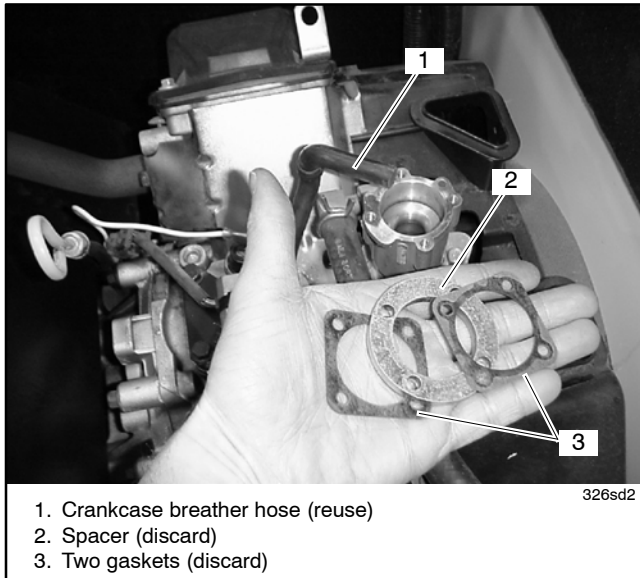

Figure 5 Crankcase Breather Hose, Air Cleaner Spacer, and Gaskets
- 3.1 Remove and discard the air cleaner spacer and two gaskets. See Figure 5.
- 3.2 Remove the rubber crankcase breather hose. Save the clamp to reuse later. See Figure 5.